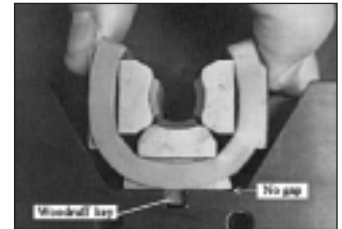

Fig. 1 – Die carrier properly inserted in holder.
**Die Change:** With the removable die holder removed, loosen two of the button head screws (Item 12\*) on one side of the die holder. The die will drop out of the holder. Apply grease (Item B\*) to the slide surfaces. Squeeze the outer segments of the die set together and insert the die into the holder **making sure that the woodruff key (Item 14\*) in the center segment snaps fully into the groove in the holder (Refer to Fig. 1)**. While holding the die securely in the slot, retighten the two button head screws. Check to make sure that the two outer segments on each half are free to move. If they do not move freely, remove and inspect for damaged guide block pad or dirt.